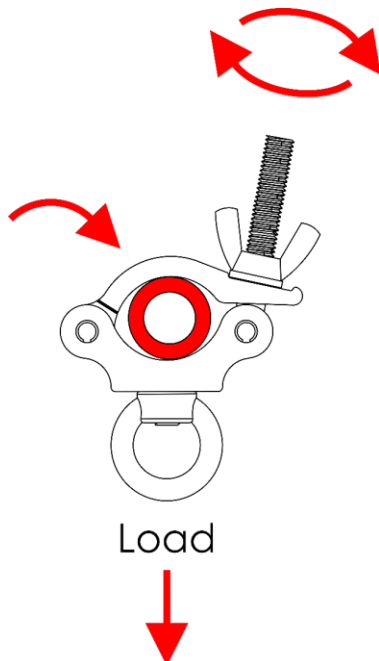
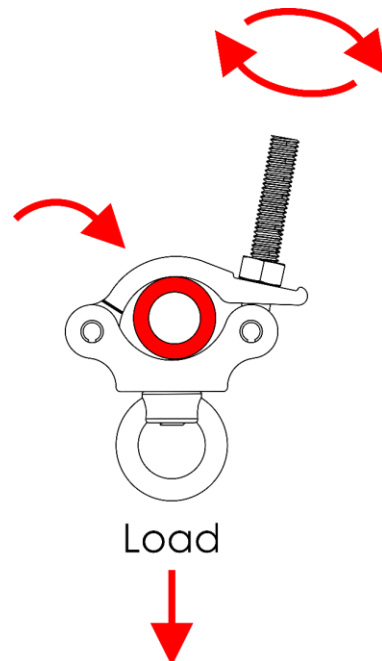

Fig. 05
Fig. 06
- 04) Attach a load to the **eye (05)**.
- 05) Put the device, with the installed load, around a tube ($\varnothing$ 48–51 mm) and close the **lock (07)**. See Fig. 05 or Fig. 06.
- 06) Put the **hex nut (02)** (fixed installation, Fig. 06) or the **wing nut (03)** (temporary installation, Fig. 05) on the **hex bolt (01)** and turn it clockwise, to tighten the device around the tube.